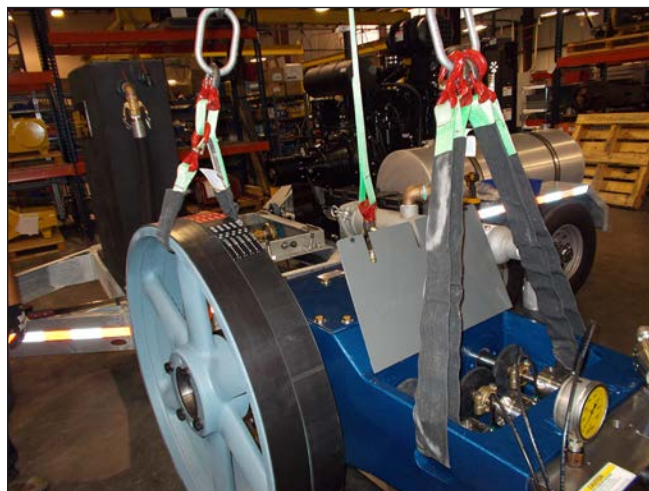

Figure 127: Lifting the Pump.
8. Attach a hoist and lifting apparatus to the pump as shown (Figure 127). The weight of the pump is approximately: